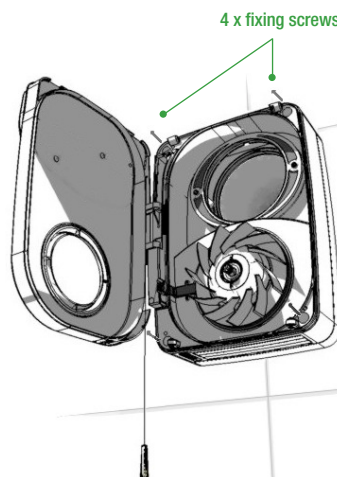

Figure 9.
7. Fit Chassis to wall with 4 fixing screws carefully aligning the hole in the back of the Tempra SRHR with the hole already cut into the wall - Figure 9.